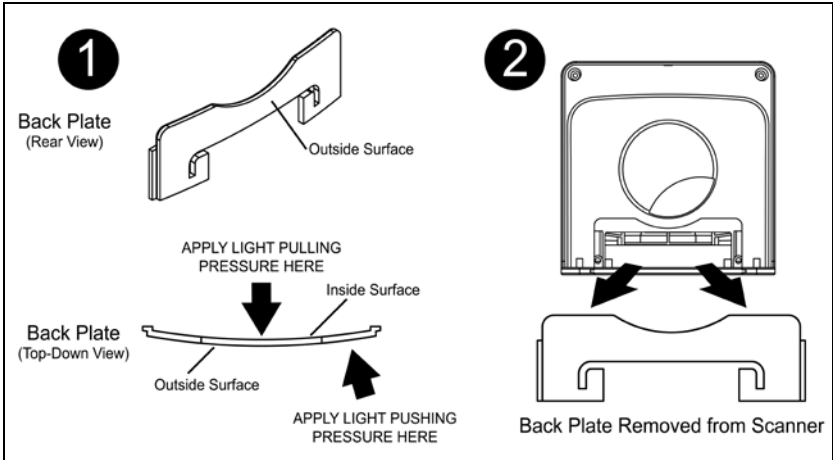

Figure 21. Cable Cover Removal
3. Remove the scanner's back plate from the rear side of the unit. Apply pressure to the points shown in *Figure 21* until the back plate unlatches from the scanner.